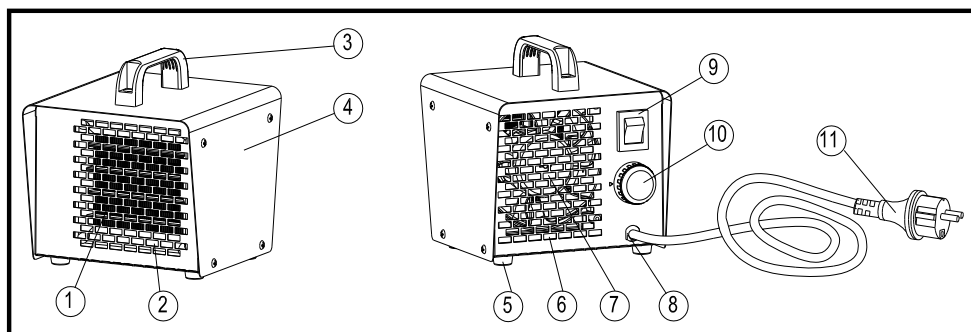

Fig. 1
► The device should be carried by a handle No. 3 in Fig. 1.
See Figs. 1.
► Per trasportare serve l'impugnatura n° 3 fig. 1.